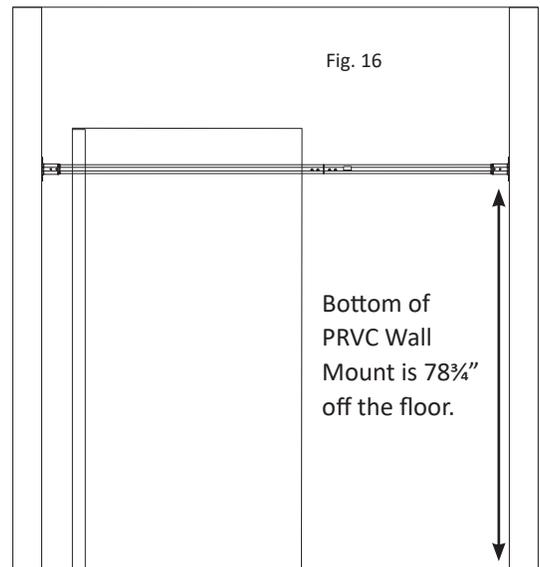

Fig. 16
- A. Pre-drill the 4 hole PRVC Wall Mount marks using a 1/8" drill bit (Fig 16). If stud is not found, use a 1/2" drill bit to drill out holes in sheetrock and move to 4B. If stud is found use a 3/32" drill bit to pre-drill hole and move to step 4C.